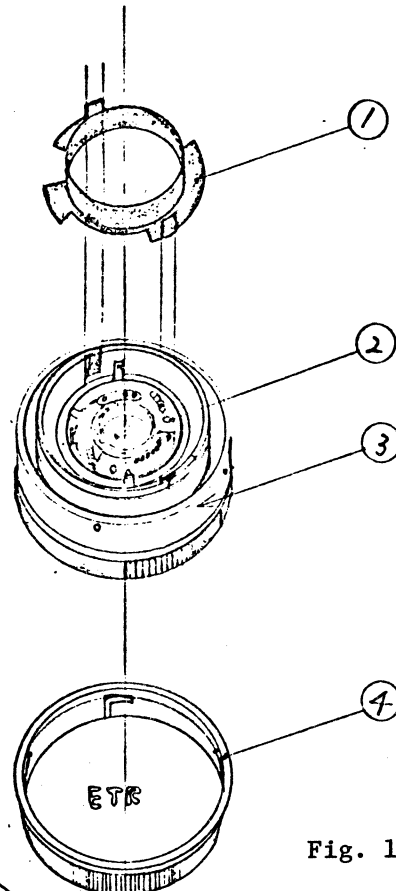
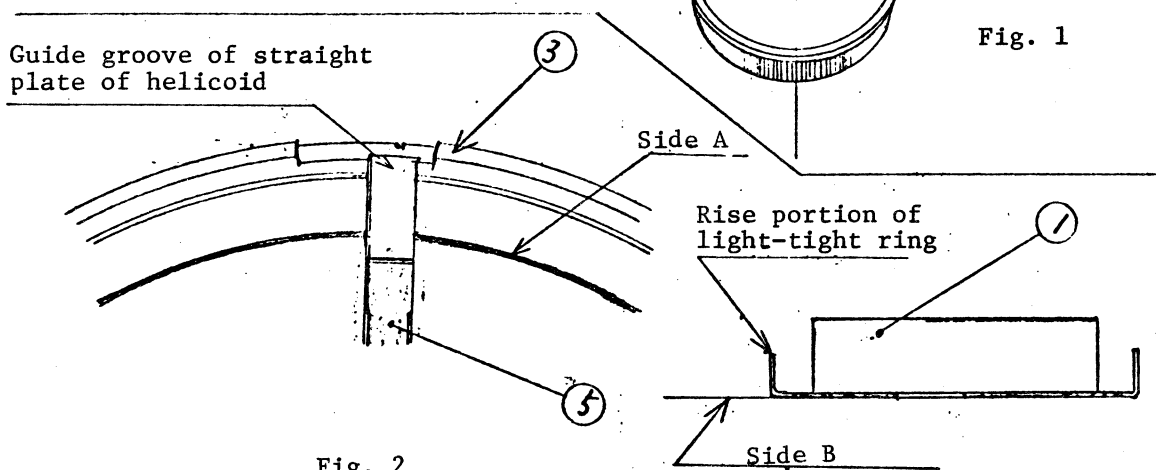

Fig. 1
Fig. 2
Install the light-tight ring ① on the helicoid with shutter installed. ③ As shown in Fig. 2, have the rise portion of the light-tight ring slide into the guide groove of the helicoid's straight plate and set the ring so as to have its side B hit side A of the helicoid and those contacted surface should be adhered to each other with adhesive (bond). Their direction must be as shown in Fig. 1, and a rear cap ④ should be applied to protect the contact piece and insulating plate set others.